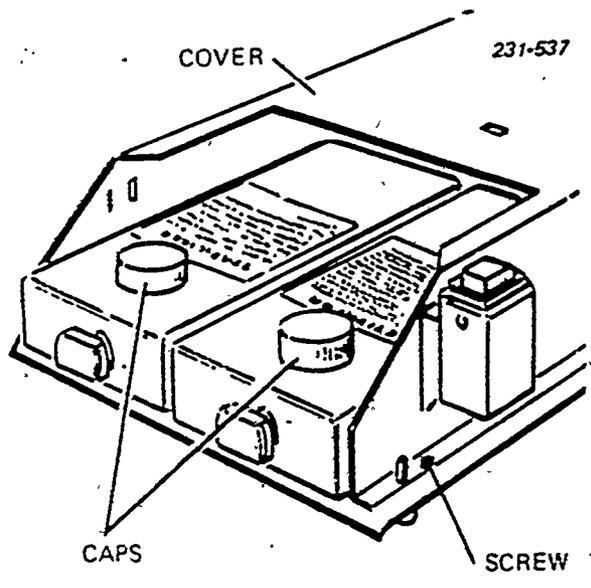

Figure 6-10 Drain bottles ready for removal.
(4) Take out the processing rack assembly, and wash the track and chemical tray with fresh water. Use a soft brush to remove stubborn residue from gears, rollers, shafts, etc. Drain water from all parts. Be sure *not* to soak the rack assembly overnight. Place the rack assembly on a flat surface in order to avoid damaging the components.
(5) Take the two drain bottles from their storage mounts and securely cap them, as shown in figure 6-10. Remove the drain bottles and flush each solution down the drain, one at a time. Flush thoroughly with water. If the two solutions are mixed, strong ammonia fumes will result.